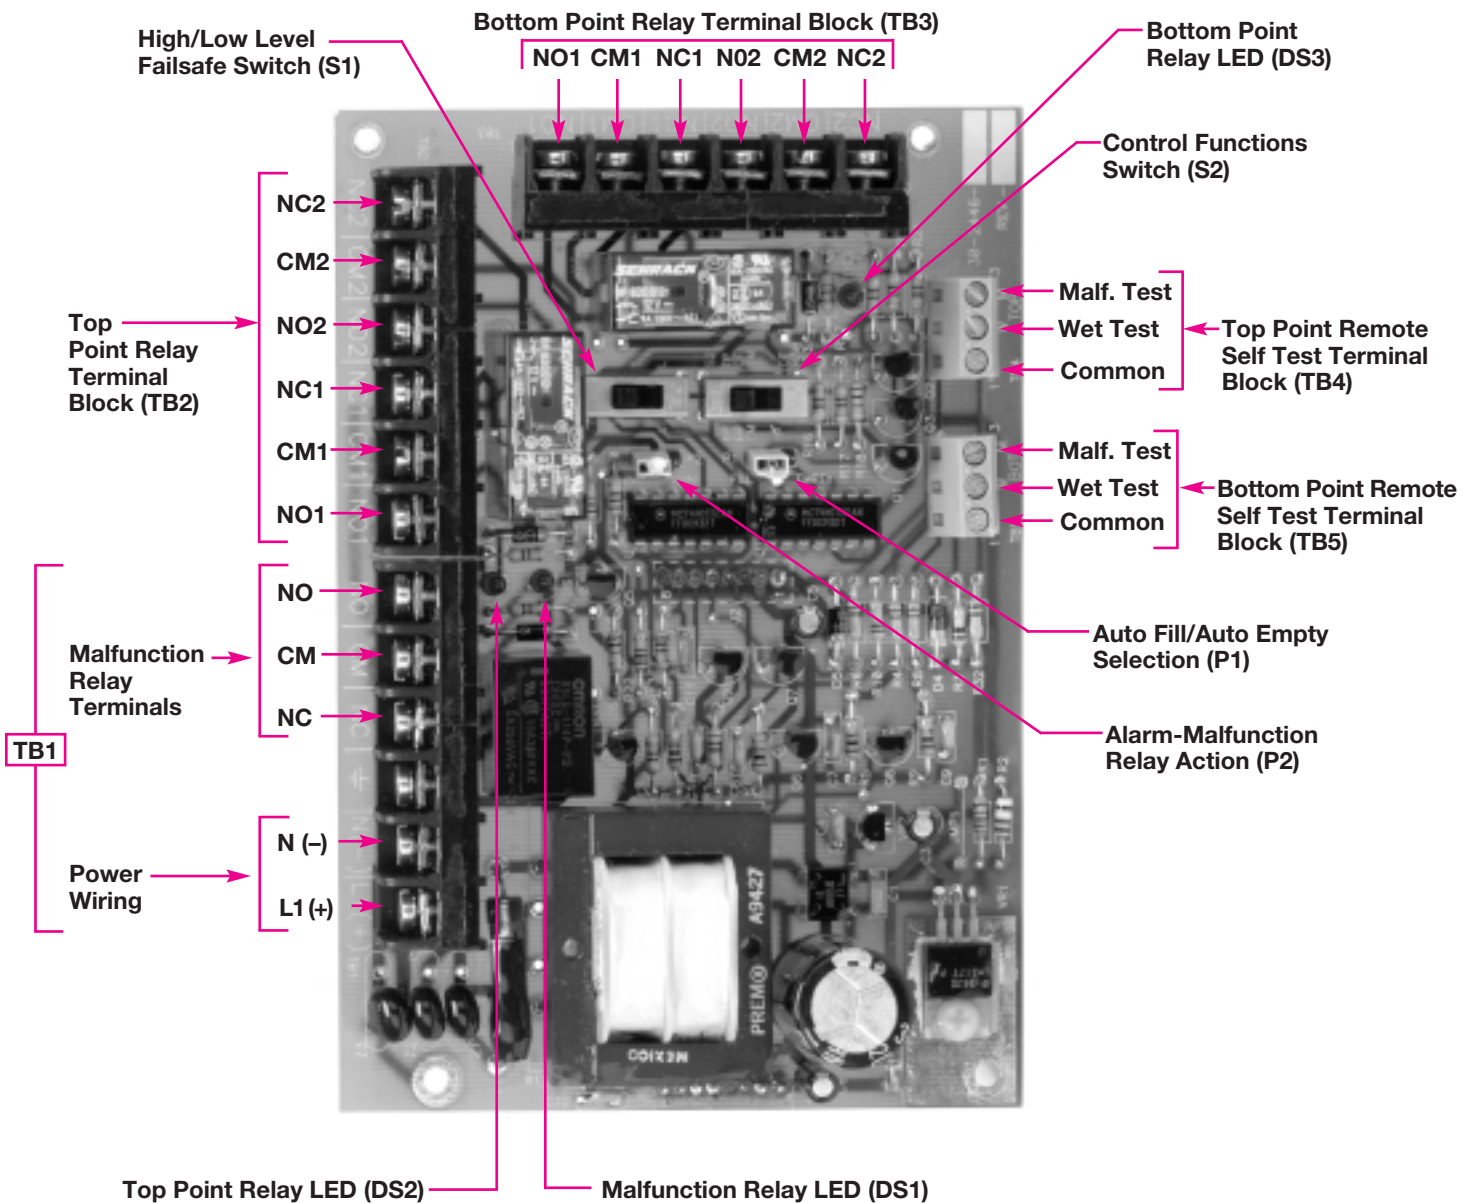

Figure 7
1. Run power leads to power terminal block TB1 on the lower left side of the power supply board. Refer to Figure 7.